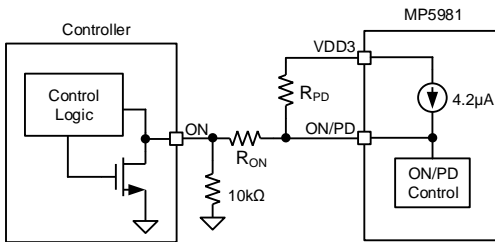

Figure 9: ON/PD Connection for PD Mode
If the MP5981 is controlled by the hot-swap controller, to achieve power FET on/off control and V_{OUT} PD mode control, ON/PD can be connected (see Figure 9). Pull ON/PD up to VDD3 through a resistor divider (R_{PD} and R_{ON}) from the controller. If ON/PD is set to about 1V, when the hot-swap controller outputs low, the power FET turns off. R_{PD} can be calculated with Equation (4):